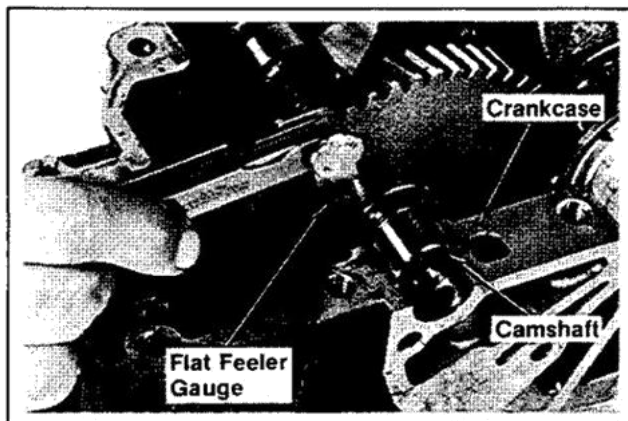

Figure 11-15. Measuring Camshaft End Play.
4. Measure the camshaft end play with a flat feeler gauge. The recommended camshaft end play is $.003/.013$ ". Refer to Figure 11-15. Add shim spacers, if necessary, to bring end play within range.